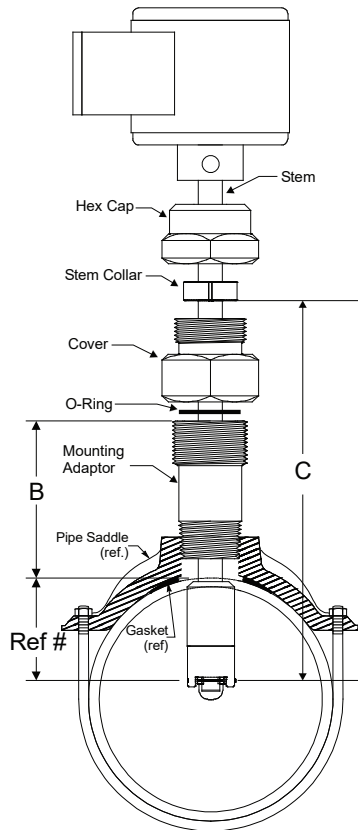

Figure 5: Dimensions "B" and "C"
- b. Next, measure from the outside wall of the pipe to the top of the installed mounting adaptor. This is dimension “B” in Figure 5.
- c. Add this number to the reference measurement. The resulting number is dimension “C” in Figure 5.
- b. Next, measure from the outside wall of the pipe to the top of the installed mounting adapter. This is dimension "B" in Figure 5 on page 7.
- c. Add this number to the reference measurement. The resulting number is dimension "C" in Figure 5 on page 7